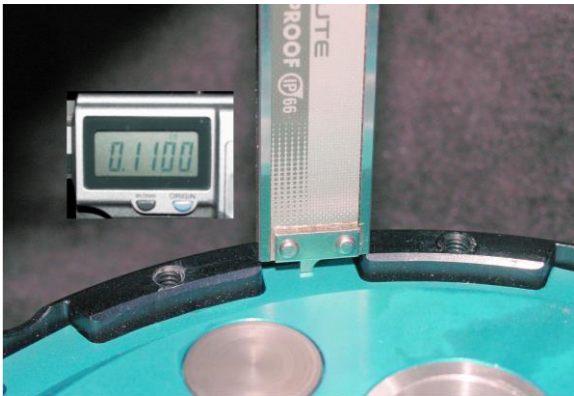
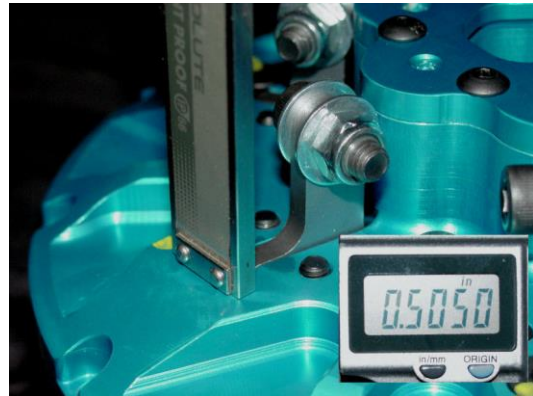

Fig. 1
Fig. 2
- (8) steels (7 thin steels-.079", 1 thick steel-.091") and (9) fiber (thin fibers-.0119") plates. The total clutch pack should be approximately 1.717".
- F. Insert the pressure plate on top of the last fiber. The height from the top of the tang, on the pressure plate to the top of the basket should be approximately 0.110" (See Fig. 1). This will give you an air gap below your arms to the buttons of 0.110".
- G. Place the hat assembly on the basket and tighten the twelve (12) allen head cap screws to secure it.
- H. The air gap between the arms and the pressure plate buttons can be measured using the thin bottom section of a caliper. Stick the caliper rod into the slot opening just behind the arm (See Fig. 2) until it hits the top of the button on the pressure plate. Take a height reading to the top of the Gen II hat, this reading should be between 0.490"-0.510". This gives an air gap of 0.100"-0.120". It is better to start with an air gap of 0.100" to compensate for clutch wear. This technique can be used to maintain the air gap, after repeated runs, without removing any part of the clutch.